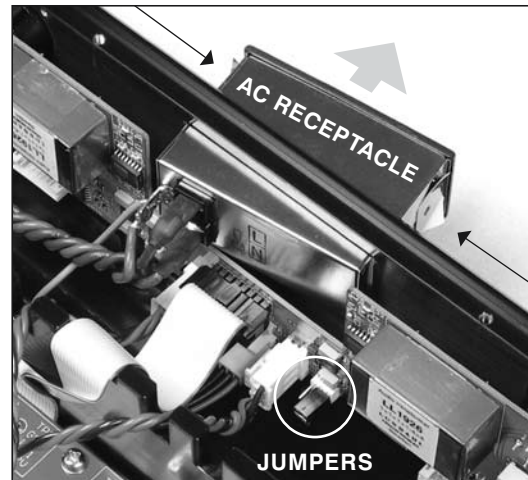

FIGURE 1: Partial Removal of AC receptacle is necessary to access the jumpers that are located underneath (See step 3 for instructions)
STEP 3: Using a small flat-blade screwdriver, compress the spring clips on each side of the AC Receptacle while pushing the Receptacle outward. Push the Receptacle out as shown in FIGURE 1, to expose the jumpers below.
STEP 3: Using a small flat-blade screwdriver, compress the spring chips on each side of the AC Receptacle while pushing the Receptacle outward. Push the Receptacle out as shown in FIGURE 1, to expose the jumpers below.